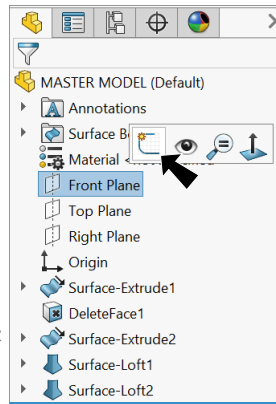

Fig. 37
Step 1. Click **Front Plane**  in the Feature Manager and click **Sketch**  on the context toolbar, **Fig. 37**.
Step 3. Click **3 Point Arc**  (S) in the **Arc** flyout  on the Sketch toolbar.